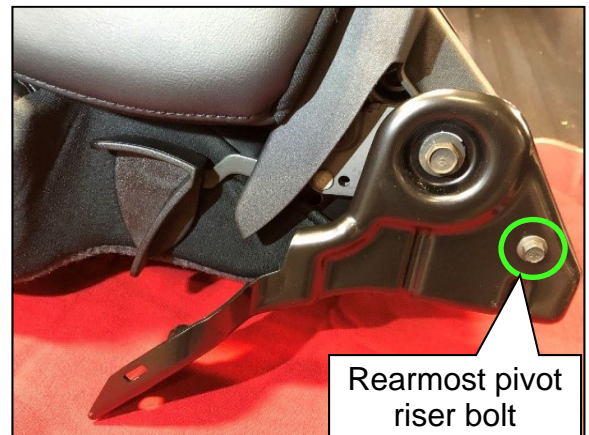

Figure 14
15. Insert and torque the rearmost pivot riser bolt to specification (Figure 14).